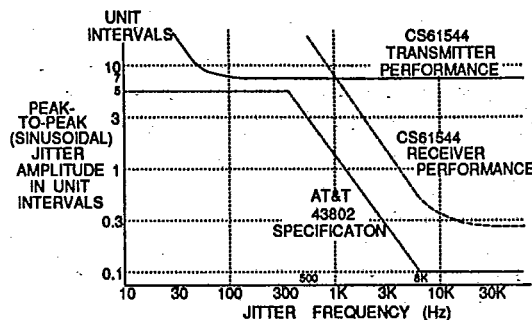

Figure 7 - Typical Input Jitter Tolerance of Transmitter and Receiver
9. For Cerdip ICs, assumes IC is operated within -70° to $+70^\circ\text{C}$ of reset temperature. For Plastic ICs, assumes is operated within -25° to $+40^\circ\text{C}$ of reset temperature (meets Bellcore central office specification: TR-EOP-000063 NEBS). For all packages, assumes IC is operated within 0.1V of reset V_+ . Input data pattern is quasi-random: (2120) - 1 with 1-in-15. Between 500 Hz and 8 kHz the jitter tolerance will be better than the AT&T 43802 line shown in Figure 7.